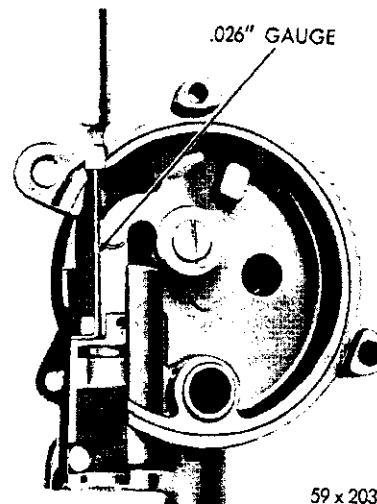

Fig. 19—Indexing the Choke Piston
(1) Remove the choke housing retainer ring, heat tube and cap and the choke thermostatic coil spring housing.
(2) Remove the throttle return spring. This will allow the throttle to be set one quarter open.
(3) Move the choke valve to wide open position.
(4) Insert an .026 inch wire gauge into the choke piston slot so that the hook on the end goes into the slot in the cylinder, as shown in Figure 19. The gauge referred to, can be made by bending a piece